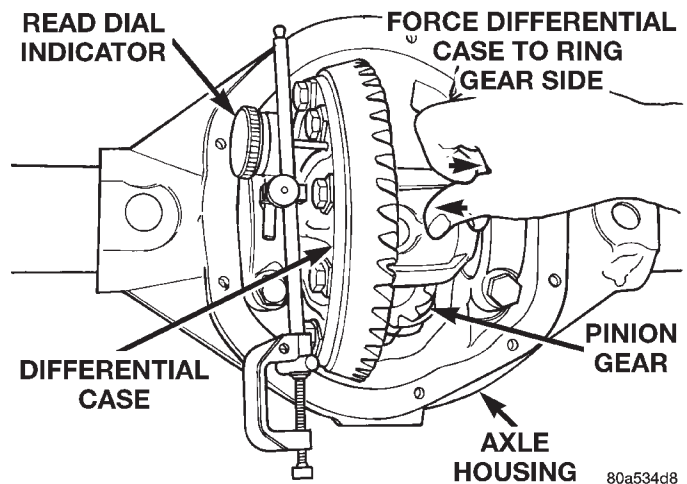

Fig. 58 Hold Differential Case and Read Dial Indicator
(23) Push and hold differential case to ring gear side of the axle housing (Fig. 58).
(24) Record dial indicator reading (Fig. 58).
(25) Subtract 0.002 in. (0.05 mm) from the dial indicator reading to compensate for backlash between ring and pinion gears. This total is the thickness shim required to achieve proper backlash.
(26) Subtract the backlash shim thickness from the total preload shim thickness. The remainder is the shim thickness required on the pinion side of the axle housing.